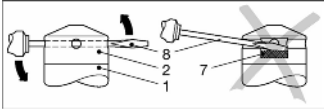

Fig. 2: Removal of protective cap
6. Hold the probe with one hand on the probe section (Fig. 2 – 1).
7. Pull off the protective cap (Fig. 2 – 2) with the other hand.
2. Slide a thin tool (Fig. 2 – 8), e.g. a screwdriver, through two opposite bores of the protective cap (Fig. 2 – 2).
NOTE – Do not damage the measuring cell (Fig. 2 – 7) under the protective cap!